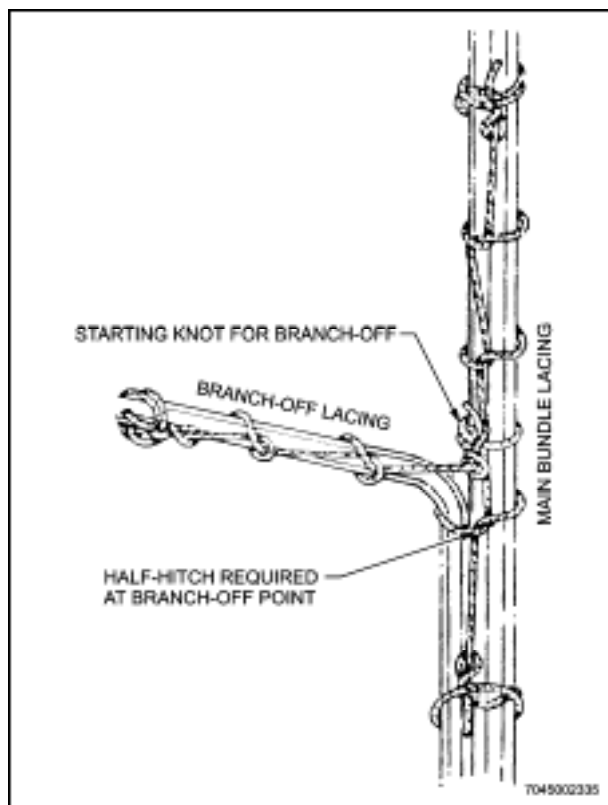

Figure 8-3 Lacing a Branch-Off
15. Lace a wire group that branches off the main wire bundle as follows (see Figure 8-3):